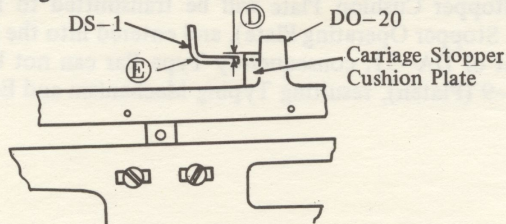

Fig. 43
- (5) Adjust the engagement ⑤ between DO-20 and the ⑥ portion of DS-1 (Carriage Side Plate Right Unit) to obtain 0 to 0.5 mm by bending the ⑥ portion up and down directions. (Fig. 43)